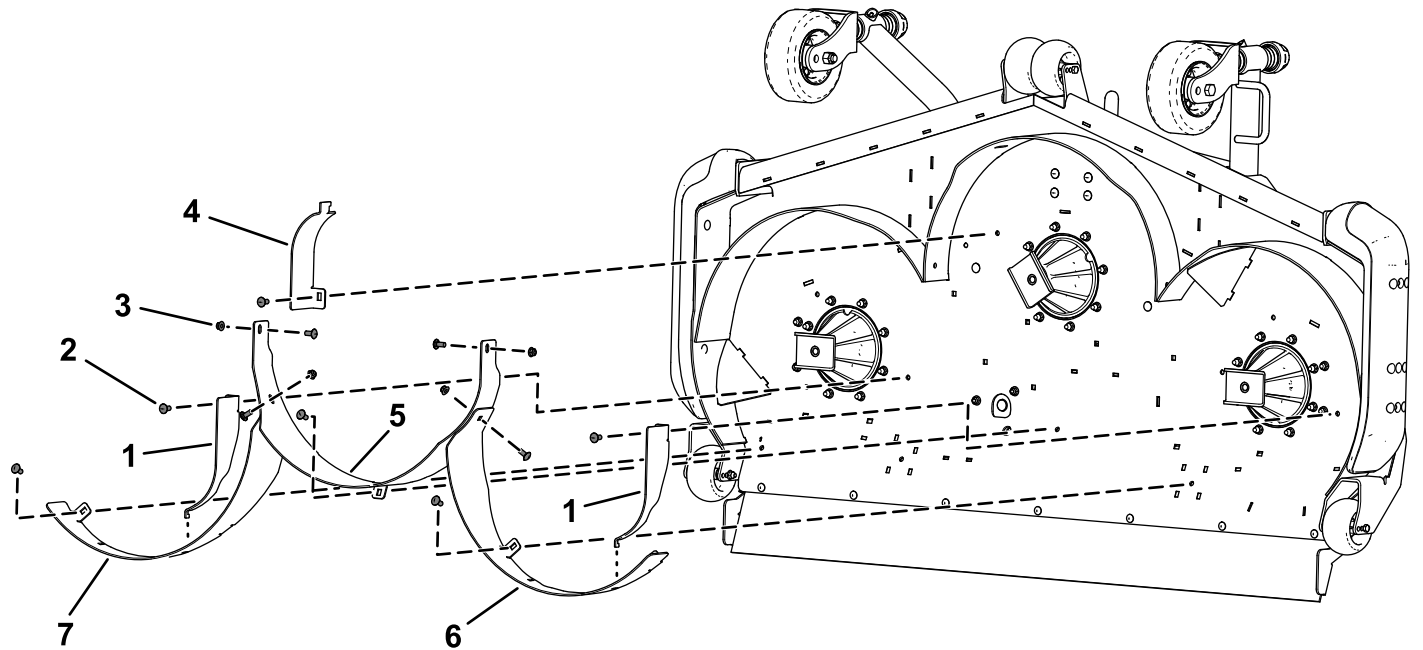

Figure 3
1. Loosely secure the rear, right baffle to the mower deck using 2 carriage bolts (3/8 x 7/8 inch) and 2 locknuts (3/8 inch) as shown in Figure 3.
2. Loosely secure the rear, left baffle to the mower deck using 2 carriage bolts (3/8 x 7/8 inch) and 2 locknuts (3/8 inch) as shown in Figure 3.
3. Loosely secure the rear, center baffle to the mower deck using 3 carriage bolts (3/8 x 7/8 inch) and 3 locknuts (3/8 inch) as shown in Figure 3.
4. Loosely secure the rear, center baffle to the rear, right baffle and rear, left baffle using 2 carriage bolts (3/8 x 7/8 inch) and 2 locknuts (3/8 inch) as shown in Figure 3.
5. Loosely secure the 2 side kicker baffles and center kicker baffle using 3 carriage bolts (3/8 x 7/8 inch) and 3 locknuts (3/8 inch) as shown in Figure 3.